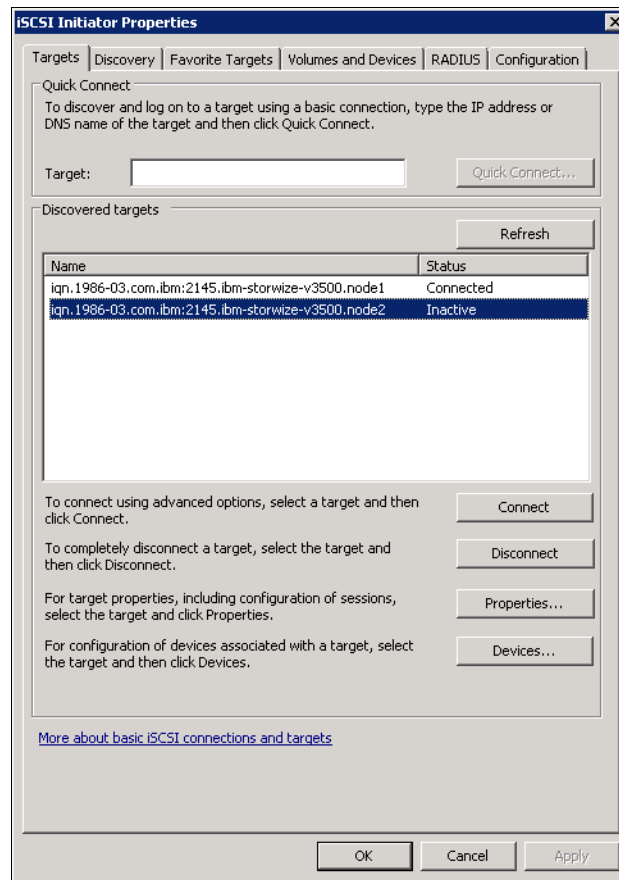

Figure 5-46 Inactive target ports
- Return to the Targets tab (as shown in Figure 5-46) and you find the new connection is listed as Inactive.